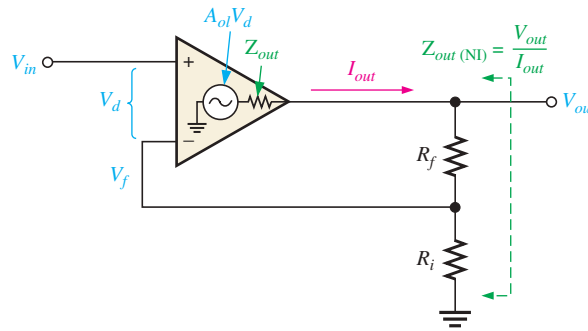

FIGURE 12–25
An op-amp connected as an **inverting amplifier** with a controlled amount of voltage gain is shown in Figure 12–21. The input signal is applied through a series input resistor R_i to the inverting (–) input. Also, the output is fed back through R_f to the same input. The non-inverting (+) input is grounded.
► FIGURE 12–21
At this point, the ideal op-amp parameters mentioned earlier are useful in simplifying the analysis of this circuit. In particular, the concept of infinite input impedance is of great value. An infinite input impedance implies zero current at the inverting input. If there is zero current through the input impedance, then there must be *no* voltage drop between the inverting and noninverting inputs. This means that the voltage at the inverting (–) input is ideally zero because the noninverting (+) input is grounded. This zero voltage at the inverting input terminal is referred to as *virtual ground*. Keep in mind that in practical circuits, virtual ground is a point very nearly at ground potential due to the presence of negative feedback and a high open-loop gain, but there is a very small signal voltage present. This condition is illustrated in Figure 12–22(a).
Since there is no current at the inverting input, the current through R_i and the current through R_f are equal, as shown in Figure 12–22(b).
► FIGURE 12–22
Given the op-amp configuration in Figure 12–23, determine the value of R_f required to produce a closed-loop voltage gain of -100 .
► FIGURE 12–23
Related Problem If R_i is changed to $2.7 \text{ k}\Omega$ in Figure 12–23, what value of R_f is required to produce a closed-loop gain with an absolute value of 25?
Input Impedance The input impedance of a noninverting amplifier can be developed with the aid of Figure 12–24. For this analysis, assume a small differential voltage, V_d , exists between the two inputs, as indicated. This means that you cannot assume the op-amp's input impedance to be infinite or the input current to be zero. Express the input voltage as
► FIGURE 12–24
Output Impedance An expression for output impedance of a noninverting amplifier can be developed with the aid of Figure 12–25.
- (a) Determine the input and output impedances of the amplifier in Figure 12–26. The op-amp datasheet gives $Z_{in} = 2 \text{ M}\Omega$, $Z_{out} = 75 \Omega$, and $A_{ol} = 200,000$.
► FIGURE 12–26
- Related Problem** (a) Determine the input and output impedances in Figure 12–26 for op-amp datasheet values of $Z_{in} = 3.5 \text{ M}\Omega$, $Z_{out} = 82 \Omega$, and $A_{ol} = 135,000$.
Figure 12–30(b) is a voltage-follower with zero input voltage and a source resistance, R_s . In this case, an input bias current, I_1 , produces a drop across R_s and creates an output voltage error as shown. The voltage at the inverting input terminal decreases to $-I_1R_s$ because the negative feedback tends to maintain a differential voltage of zero, as indicated. Since the inverting terminal is connected directly to the output terminal, the output error voltage is $-I_1R_s$.
Figure 12–31 is a noninverting amplifier with zero input voltage. Ideally, the voltage at the inverting terminal is also zero, as indicated. The input bias current, I_1 , produces a voltage drop across R_f and thus creates an output error voltage of I_1R_f , just as with the inverting amplifier.